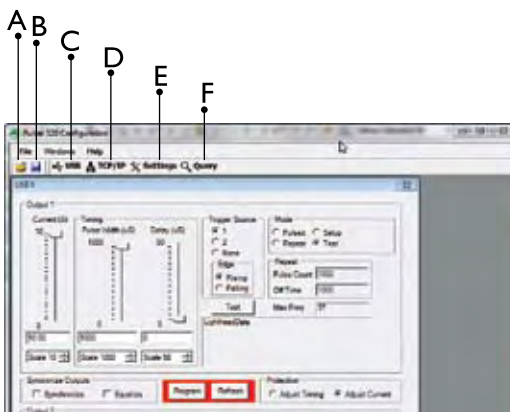

Figure 11A: GUI Dialog Window
**4.4.2.2 Launch Pulsar 320 Controller user interface:** To run the program; go to Start -> Programs -> Advanced illumination -> Pulsar Controller. Upon execution of the Pulsar Controller Utility program, the dialog box shown in figure 11A will appear.